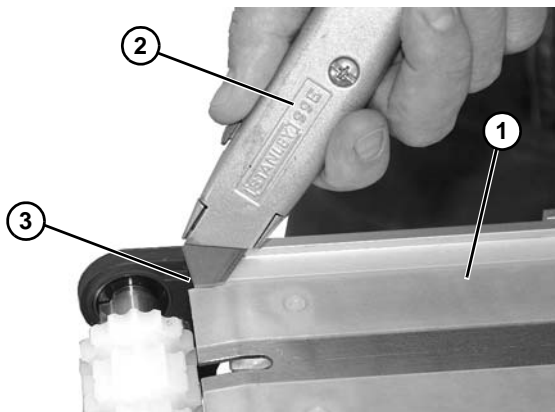

Figure 75
5. Install new wear strip (Figure 75, item 1).
6. Using a utility knife (Figure 75, item 2), cut out notch in each corner (Figure 75, item 3).